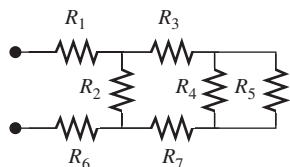

FIGURE P3.7 Circuit for Problem 3.7.
3.7 (A) Find R_{eq} in Figure P3.7, given